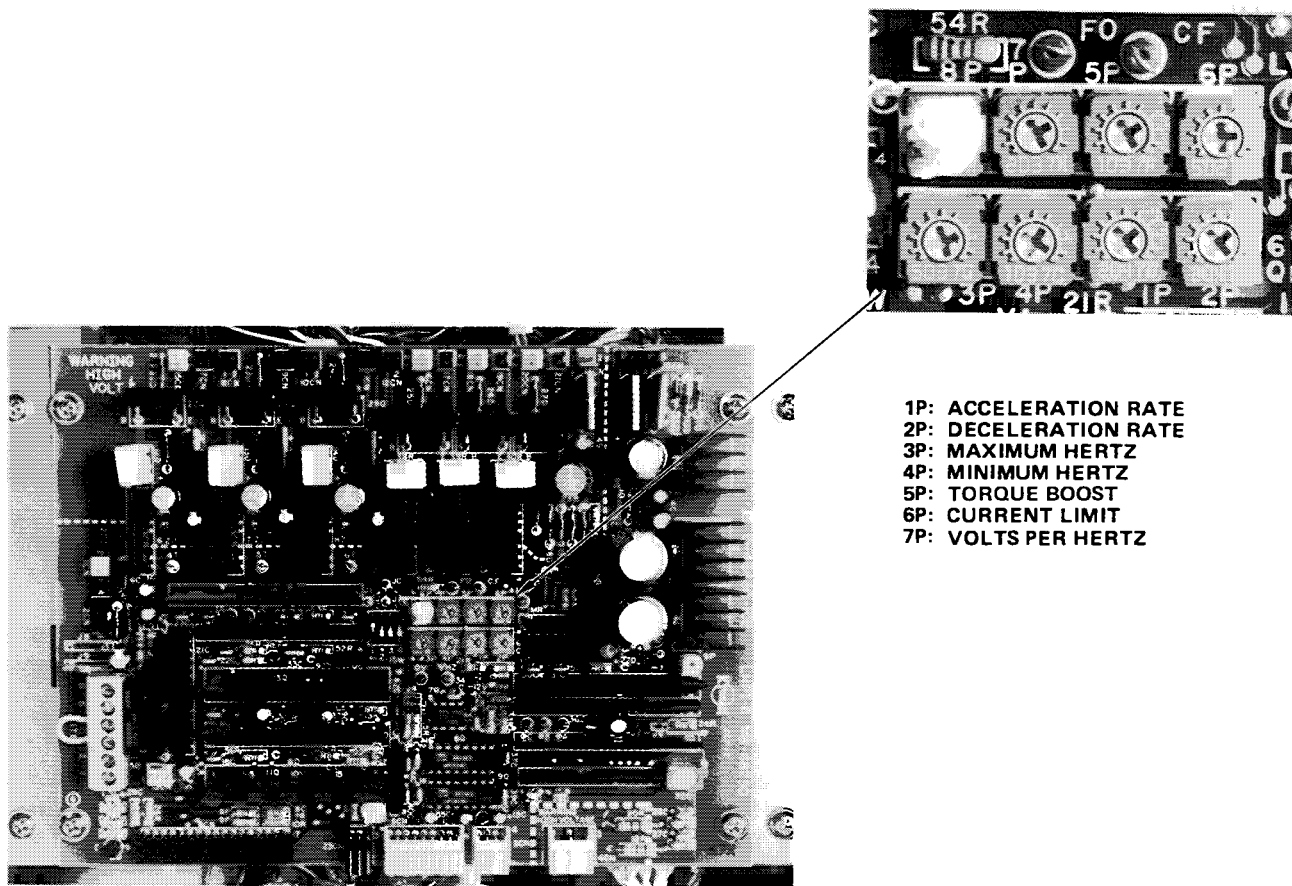

Figure 3-1. Regulator pots.
4. Verify that the controller pots (**Figure 3-1**) are set according to the initial factory setting column in **Table 3-1**.